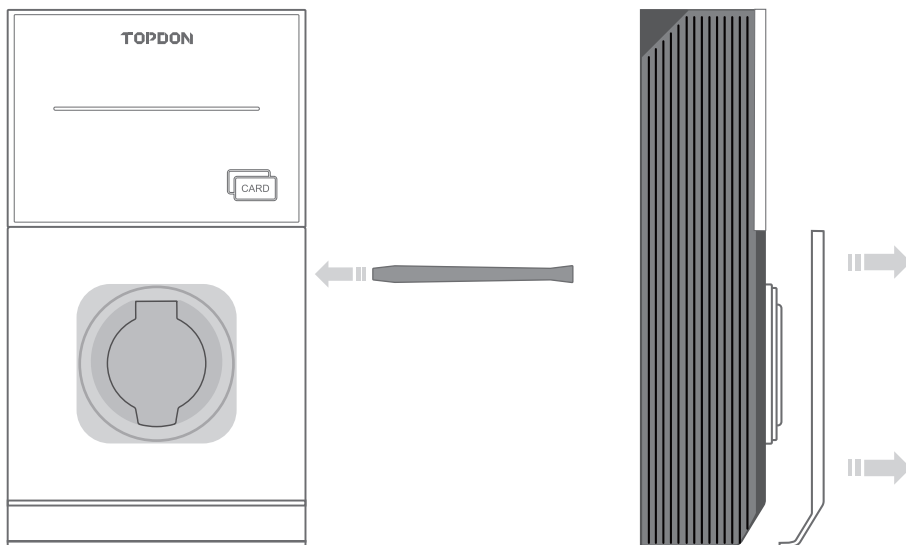

Fig. 4-11
2. Use a spudger to remove the cover. (See Fig. 4-11)